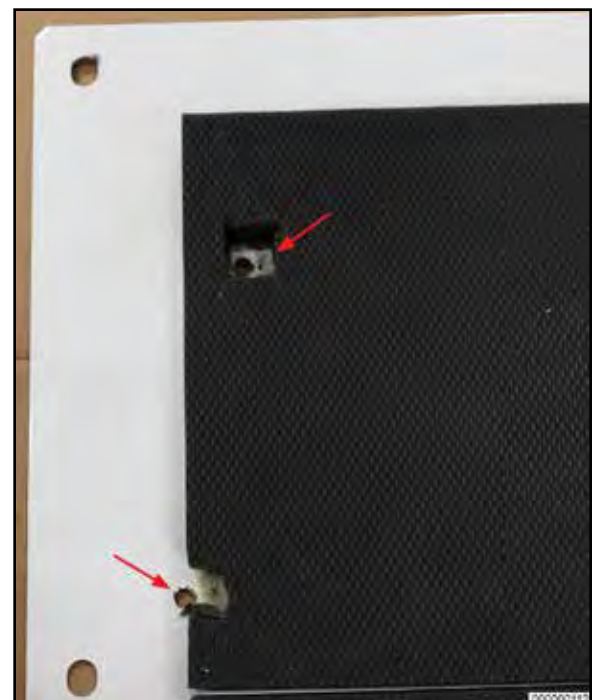

Figure 5
- **Step 11:** Flip rear panel over. Using scissors or safety knife, remove approximately 1 inch square of foam insulation from around each mounting hole as shown. (Figure 5)